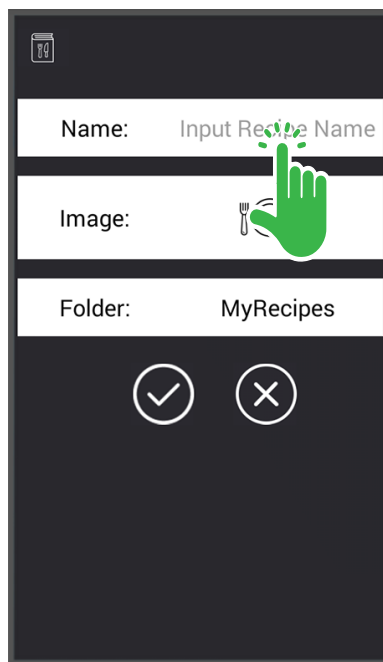

Fig. 35
13. On the **Recipe Name Screen** (Fig. 35), touch the name field and type the recipe name.